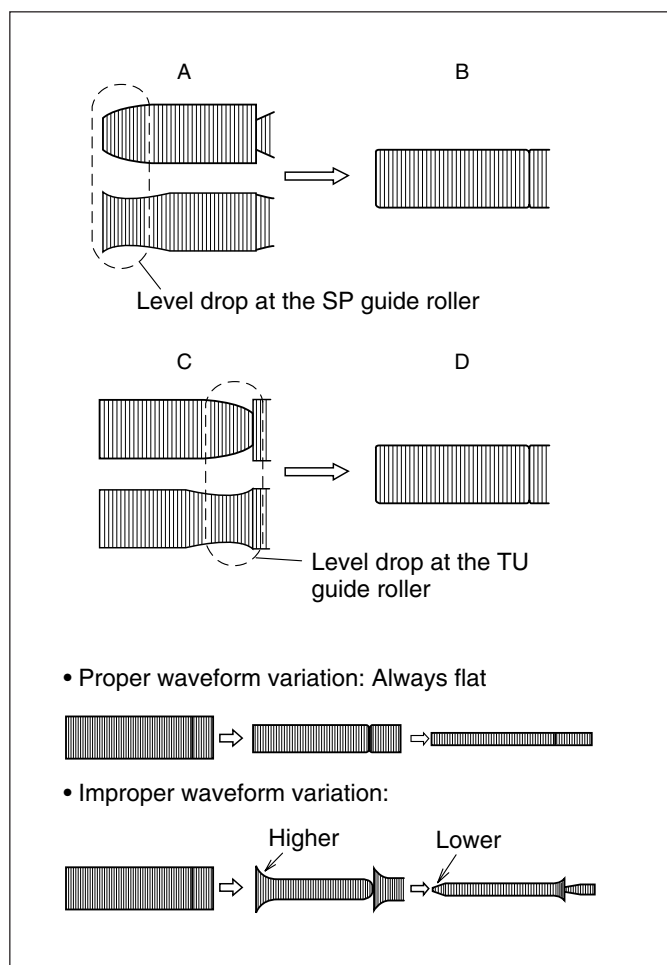

Fig. 2-5-3
- (6) During playback, press the tracking button (+, -) to reduce the FM waveform. If a drop in level is observed at the left-hand side as shown in Fig. 2-5-3, adjust the guide roller on the pole base assembly (S) using the roller driver so that a linear FM waveform is obtained. If a drop in level is observed at the right-hand side, rotate the guide roller on the pole base assembly (T) for adjustment. (Fig. 2-5-3)
- (7) After adjusting, tighten the set screw at the bottom of the pole base assembly. (Pay attention not to tighten excessively.)
- (8) After tightening the set screw, play back the alignment tape VFK1741 to check the FM waveform varies as shown in the optimum waveform changing examples.
- (9) When the alignment tape VFK1741 is played back after being ejected and reloaded or soon after the search reverse mode is operated, check that the FM waveform stabilizes within 2 sec. of appearing. If it takes more than 2 sec., check which side (right or left) of the FM waveform is unstable and check the following items.